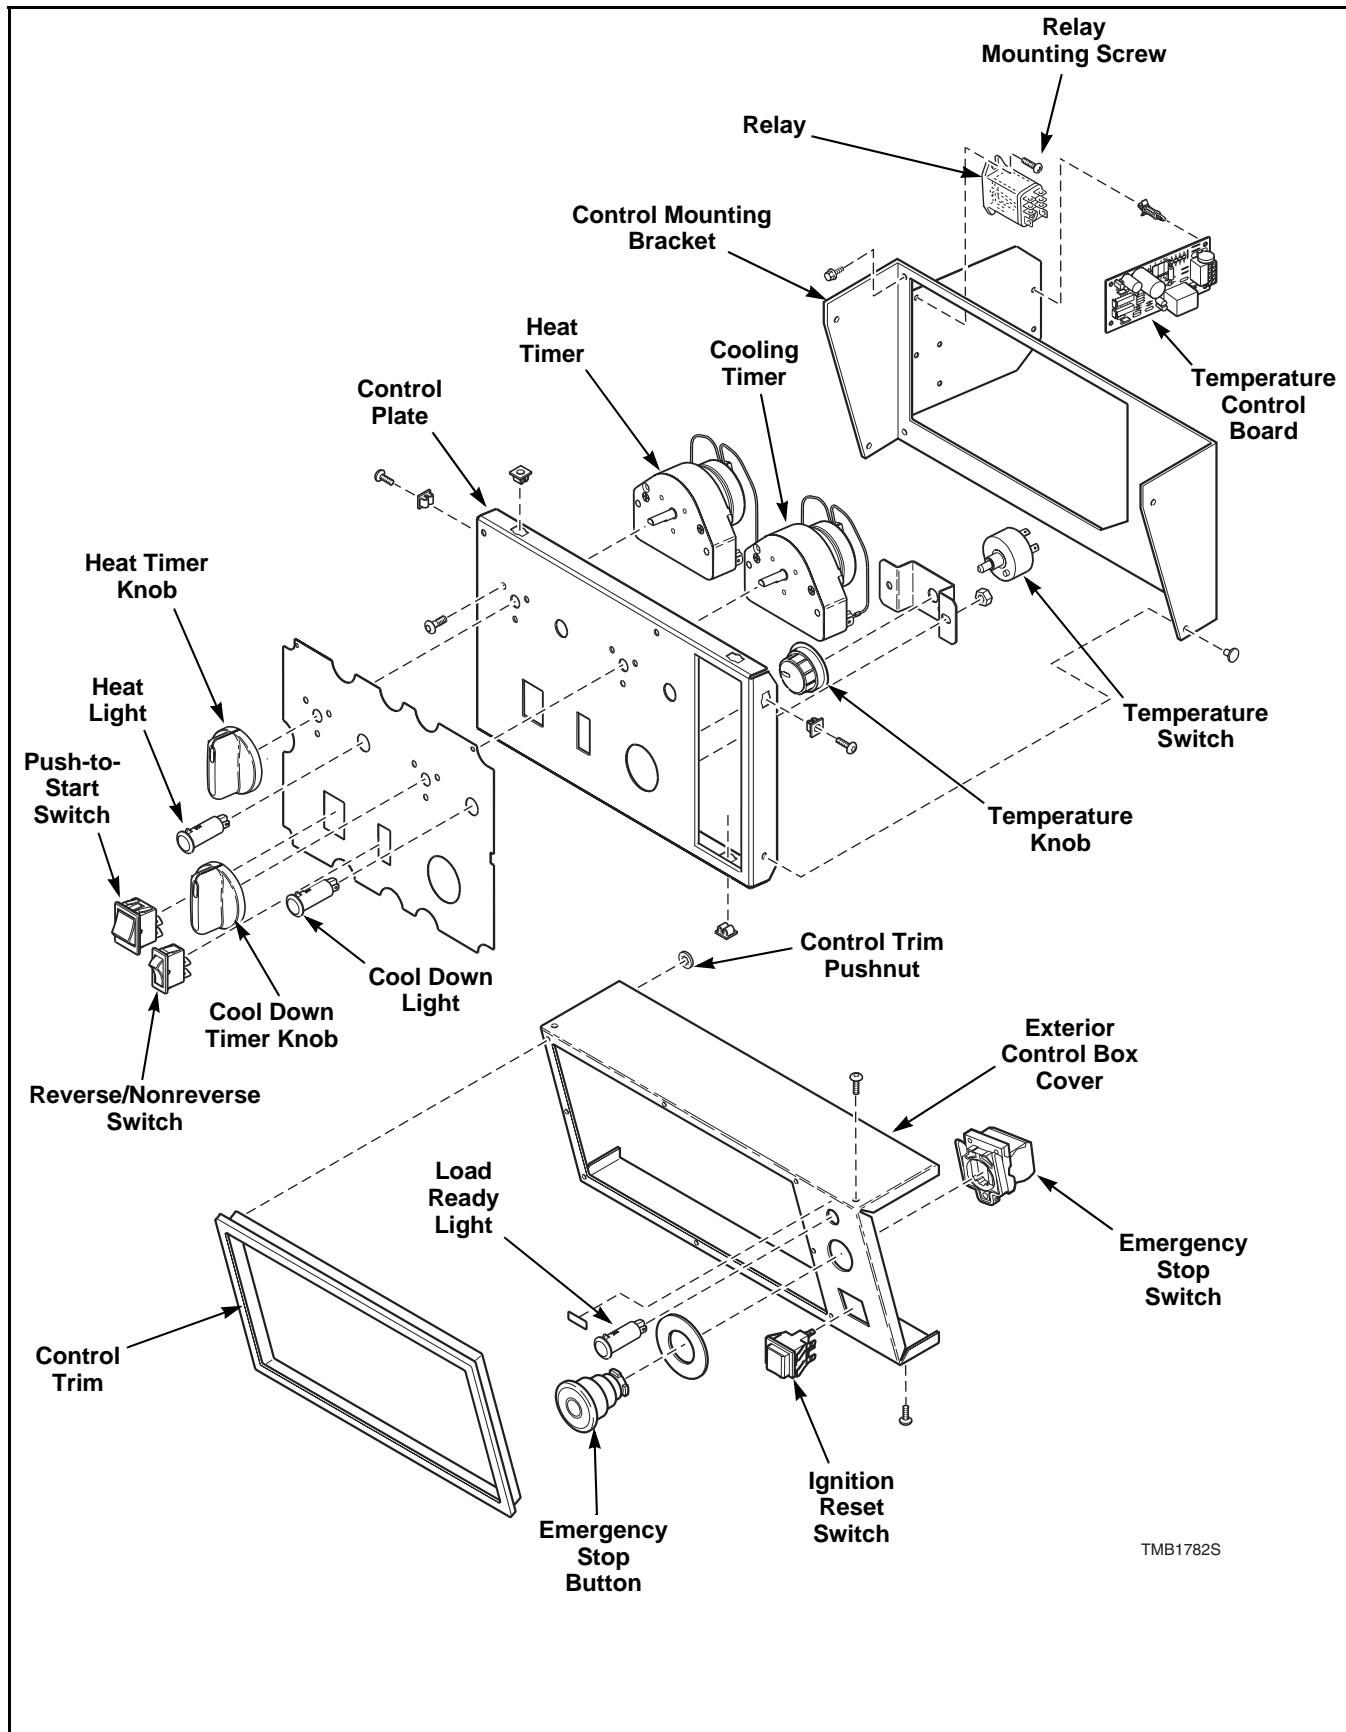

Figure 3
- b. Remove screw from left and right sides of control mounting bracket securing control plate. Refer to *Figure 3*.
Refer to *Figure 3*.
- c. Remove two screws holding switch to timer graphic panel. Refer to *Figure 3*.
- b. Pull timer knob off timer shaft. Refer to *Figure 3*.
- c. Remove two screws holding relay to interior control box. Refer to *Figure 3*.
- d. Pull knob off switch. Refer to *Figure 3*.